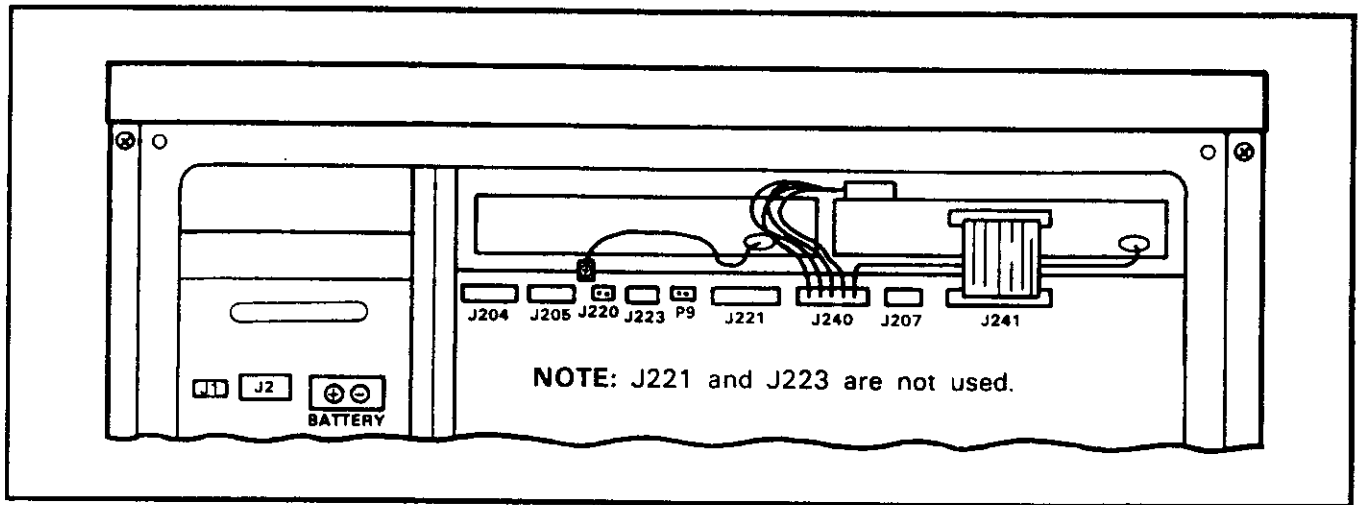

FIGURE 6—FFDA CABLES
- d) Connect the three-ended ribbon cable between FDD0 and FDD1 (Figure 6).
- e) Connect the three-ended wire bundle between FDD0 and FDD1 (Figure 6).
- 8) At the rear of the FCEC, connect the ribbon cable extending from FDD0 to **J241** on the motherboard. Connect the wire bundle extending from FDD0 to **J240** on the motherboard. Connect the green ground wire extending from FDD1 to the motherboard (Figure 6).